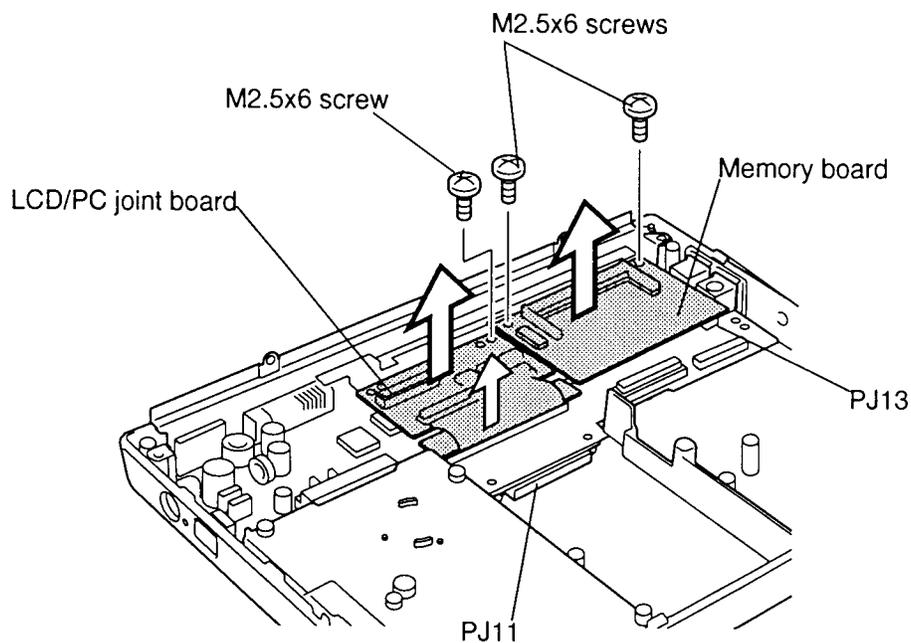

Figure 4-26 Removing the memory board and LCD/PC card joint board
To remove the T2400CS/T2400CT's memory board, follow the steps below and refer to figure 4-26.
3. Remove two M2.5x6 screws on the memory board (figure 4-26).
4. Disconnect the memory board connector (PJ202) from PJ13 on the lower system board and lift the memory board from the system unit (figure 4-26).
To install the T2400CS/T2400CT's memory board, follow the steps below and refer to figure 4-26.
1. Place the memory board in the computer, and connect the memory board connector (PJ202) to PJ13 on the lower system board (figure 4-26).
2. Secure two M2.5x6 screws on the memory board (figure 4-26).
To remove the T2400CS/T2400CT's LCD/PC card joint board, follow the steps below and refer to figure 4-26.
3. Remove the right side M2.5x6 screw on the LCD/PC card joint board (figure 4-26).
4. Carefully disconnect the LCD/PC card joint board connector from PJ11 on the lower system board (figure 4-26) and lift out the LCD/PC card joint board from the system unit.
To install the T2400CS/T2400CT's LCD/PC card joint board, follow the steps below and refer to figure 4-26.
1. Place the LCD/PC card joint board in the computer and connect the LCD/PC card joint board connector to PJ11 on the lower system board (figure 4-26).
3. Secure the right side M2.5x6 screw on the LCD/PC card joint board (figure 4-26).